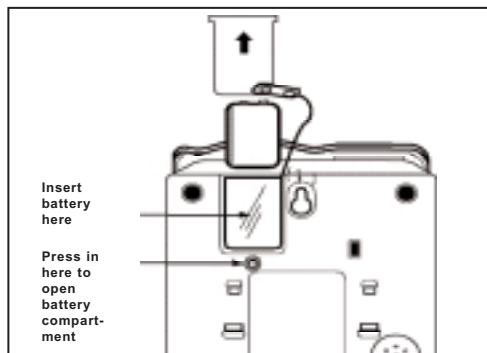

Figure 3
1. Slide open the battery compartment cover on the bottom of the telephone. (Figure 3).